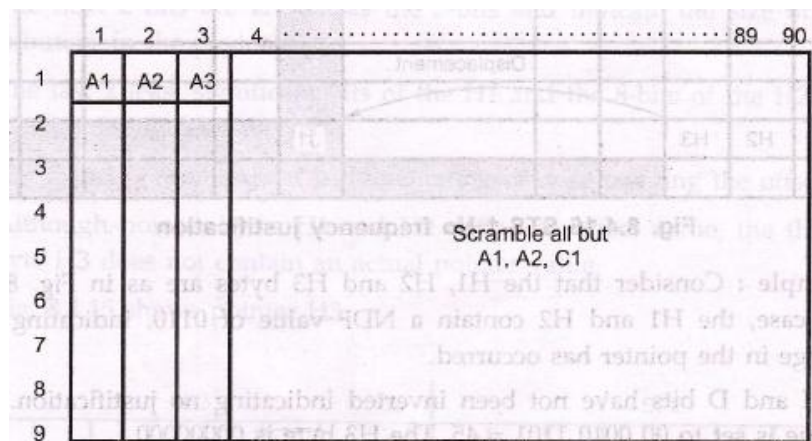

Fig. 8.4.18 Frame scrambled
- The A1, A2 and C1 bytes are not scrambled and the scrambling process begins with the byte right after C1. This is shown in Fig.8.4.18. this applies to both SONET and SDH.